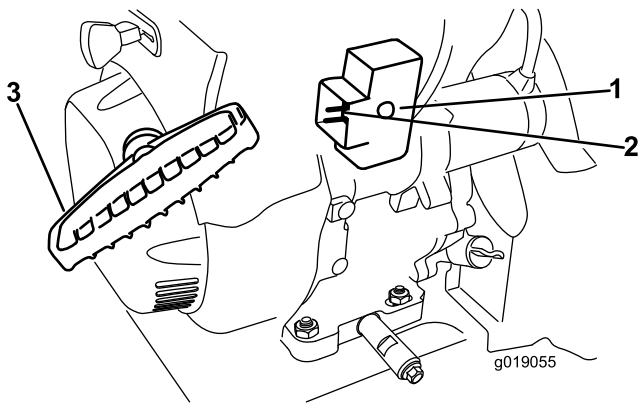

Figure 31
- Start the machine by pulling the recoil starter or pressing the electric-starter button (Figure 31).